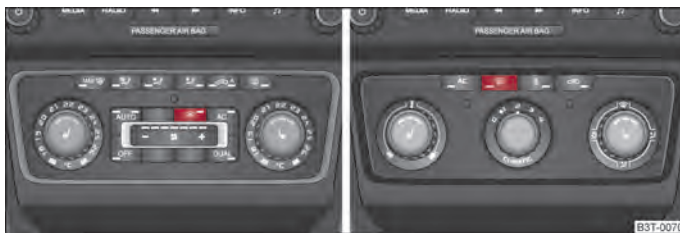

Fig. 47 Switch for windscreen heater/switch for rear window heater
- You can switch the windscreen heater on or off by pressing the switch **(H)** ⇒ fig. 47 - left, the indicator light in the switch comes on or goes out.
- You can switch the rear window heater on or off by pressing the switch **(H)** ⇒ fig. 47 - right, the indicator light in the switch comes on or goes out.